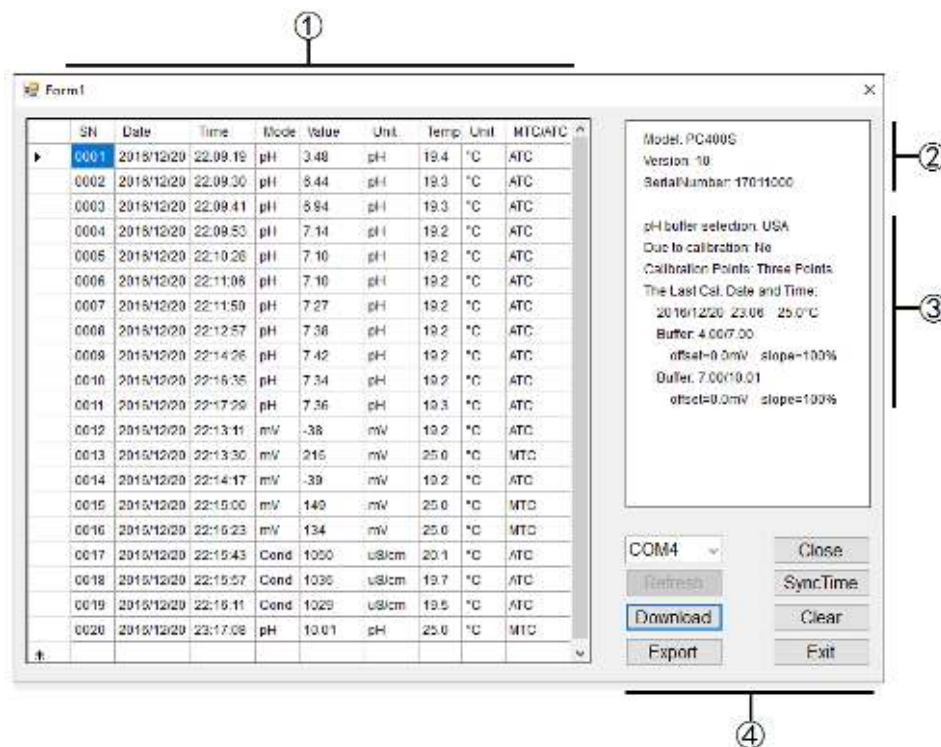

Figure- 15
① — Stored data
- Press **M+/M-** after the meter is connected to the computer, or set up auto timing storage function. In this case, all the measuring data will be uploaded to the software, and will not be stored in the meter. See figure-15.
② — Model and Numberings
③ — Calibration information
④ — COM Port #and other buttons
COM Port # is the number for the software to connect with the computer. Every computer's COM port is different. In Figure-15, the COM port # is COM4.